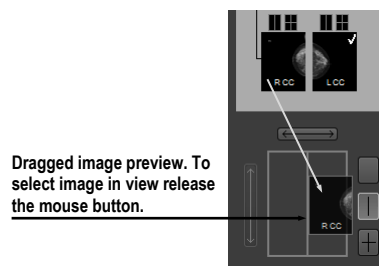

Figure 378 – Dragging an image from the study preview to the layout area
- Use the drag-and-drop technique to drag the image to the screen preview in the screen layout area in the image navigator (see Figure 378). The image is displayed in the appropriate view in the mammography workspace on the left or right monitor.